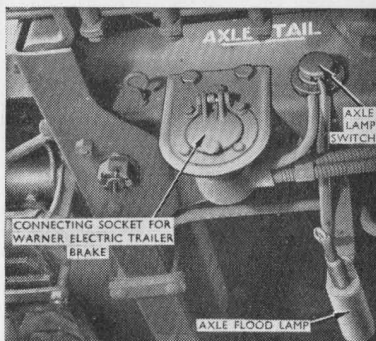

Fig. 4. Rear Axle Flood Lamp Switch.
23. Rear Axle Flood Lamp Switch (*Fig. 4*).